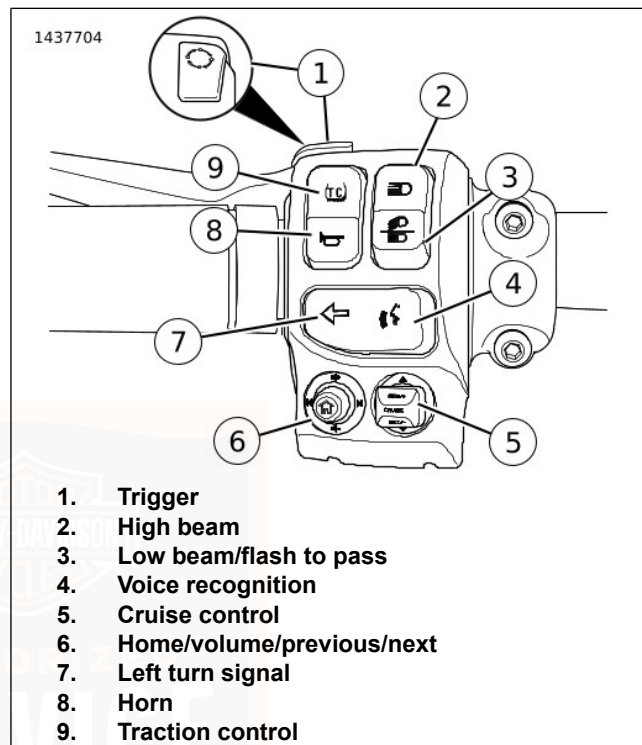

Figure 25. Left Hand Switch Module (typical)
See Figure 25. **Vehicle off:** Press the trigger switch (1) to display the accumulated mileage in the odometer. **Vehicle in accessory/ignition mode:** Press the trigger switch to cycle through the odometer functions. Refer to Table 33.
See Figure 25. Press the high beam switch (2) to activate the high beam. The (blue) high beam indicator lamp is lit when the high beam is on. Refer to Table 33.
Low beam: See Figure 25. Press the bottom of the low beam/flash to pass switch (3) to activate the low beam.
See Figure 25. The voice recognition switch (4) activates the voice recognition features on equipped vehicles. With a headset connected, press the voice command switch. The radio shows a list of available commands. Speak the desired command into the headset microphone. See the BOOM! BOX OWNER'S MANUAL.
See Figure 25. The cruise control (5) switch is used to operate cruise control on equipped vehicles. See OPERATION > CRUISE CONTROL (Page 104) for detailed operation.
See Figure 25. The HOME/VOLUME/PREVIOUS/NEXT (6) five-way switch operates radio features on equipped vehicles. See the BOOM! BOX OWNER'S MANUAL.
Activate: See Figure 25. Press the left turn signal switch (7) to activate the left turn signal. Refer to Table 33.
See Figure 25. The horn is operated by pressing the horn switch (8). The horn can be activated for up to 10 seconds at a time. If the horn switch is held for a longer period, the horn automatically deactivates. Refer to Table 33.
See Figure 25. The traction control switch (9) activates and deactivates the traction control system and switches traction control modes on equipped vehicles. Refer to Table 33.
The trigger switch is located on the front of the left hand control. See Figure 25.